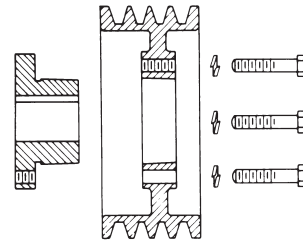

FIG. 1 Standard Mounting
2. Select the type of mounting (See Fig. 1 or 2) that best suits your application.